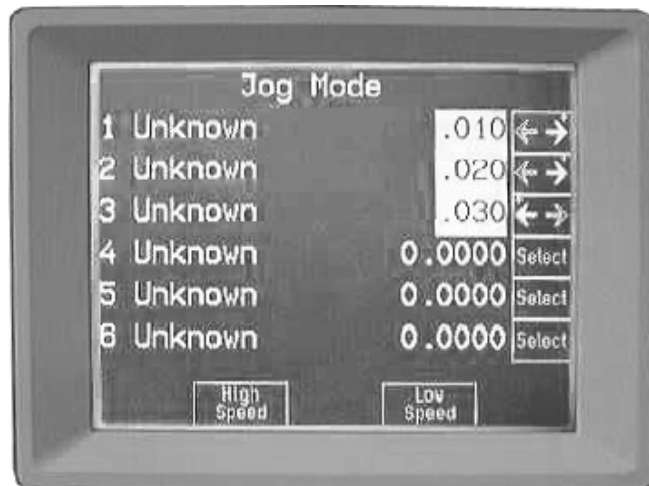

Figure 1.12: Jog Mode Screen
- When the user selects the **JOG** button from the **MOVE MENU** screen, a **JOG MODE** screen displays using the Axis Selection Buttons. The user selects an axis and chooses the method of control from either the Direction Function Buttons or the Control Knob, depending on the number of times the Axis Selection Button is pressed. The appropriate icon will display the selected control method (e.g., left/right Direction Function Button, up/down Direction Function Button, or Control Knob) and its relative position direction (noted with an "+" sign (See **Figure 1.12**).